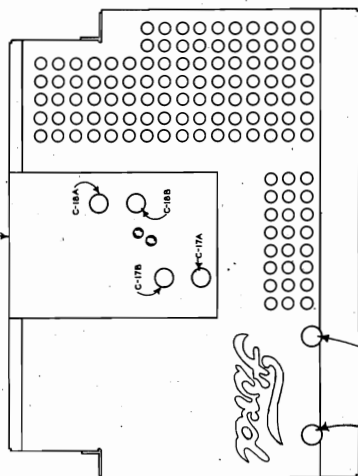

FIG. 5
3. Adjust trimmers C-18 A&B and C-17 A&B for maximum response. (See Fig. 5.)